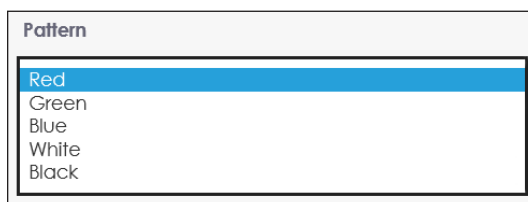

Figure 94: Output Color Patterns
- Choose a display output color from the **Pattern** drop-down list to see the module's current color calibration and evaluate the need for manual module adjustment. Refer to **Figure 94**.